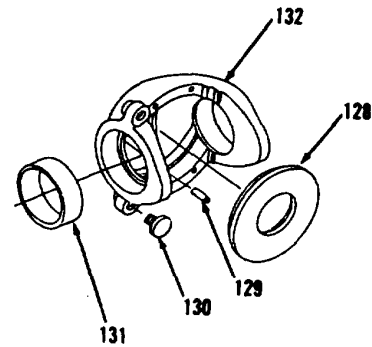
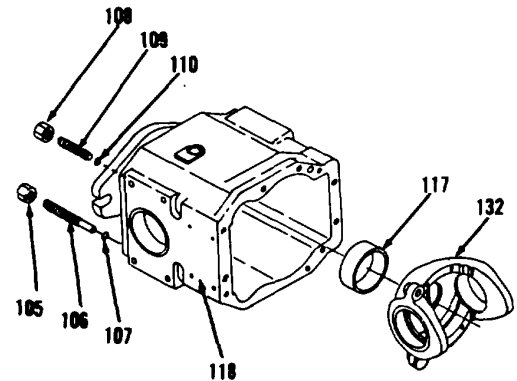

Figure 10-46.
Figure 10-47.
2. Install dowel (129) on swashplate (132, Figure 10-46).
3. Lower temperature of two bearing cups (131) and install in swashplate (132).
4. Install two stops (130).
5. Install plate (128) in swashplate (132) with hole in plate (128) in alignment with dowel (129).
6. Lower temperature of bearing cup (117) and install in body (118, Figure 10-47).
7. Install new preformed packing (110), bolt (109) and nut (108) in body (118). Bolt (109) is the maximum stop bolt and must be installed in the same hole from which it was removed.
8. Install new preformed packing (107), bolt (106) and nut (105). Bolt (106) is the minimum stop bolt and must be installed in the same hole from which it was removed.
9. Install swashplate (132) in body (118).